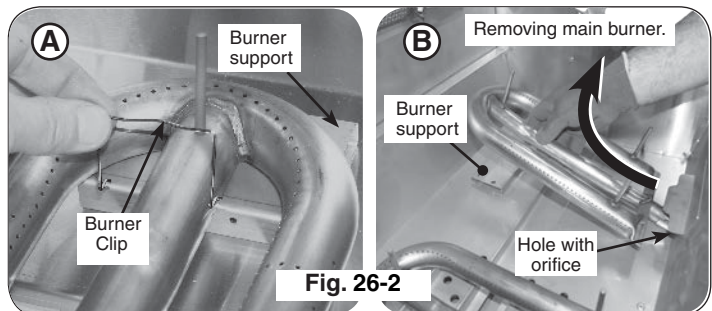

Fig. 26-2
2. Locate the burner. Slightly pinch and remove the burner clip (located over the rear center of the burner) from the burner support and set aside (see Fig. 26-2, A).
3. Carefully lift the burner from the burner support and out from the hole in the forward fire wall (see Fig. 26-2, B).
4. Use a 1/4" hex deep socket nut driver to remove the exposed orifice. Access it through the hole in the forward firebox plate inside the grill (Fig. 26-2). Check orifice. If needed, replace it with the correct orifice for the new gas.